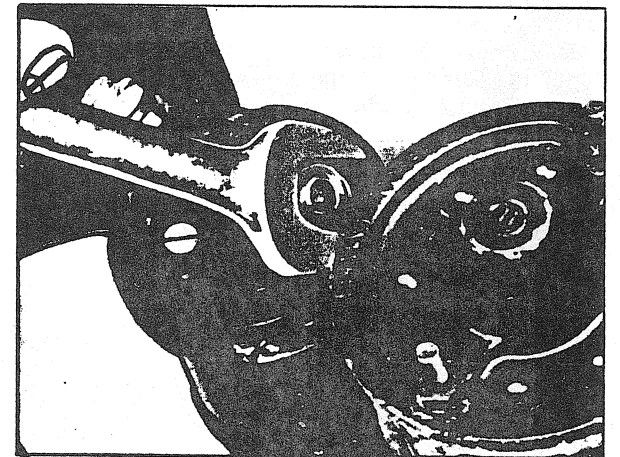

FIGURE 3
- With a 13mm wrench, disconnect winding connections at the starter solenoid switch (Fig. 3).